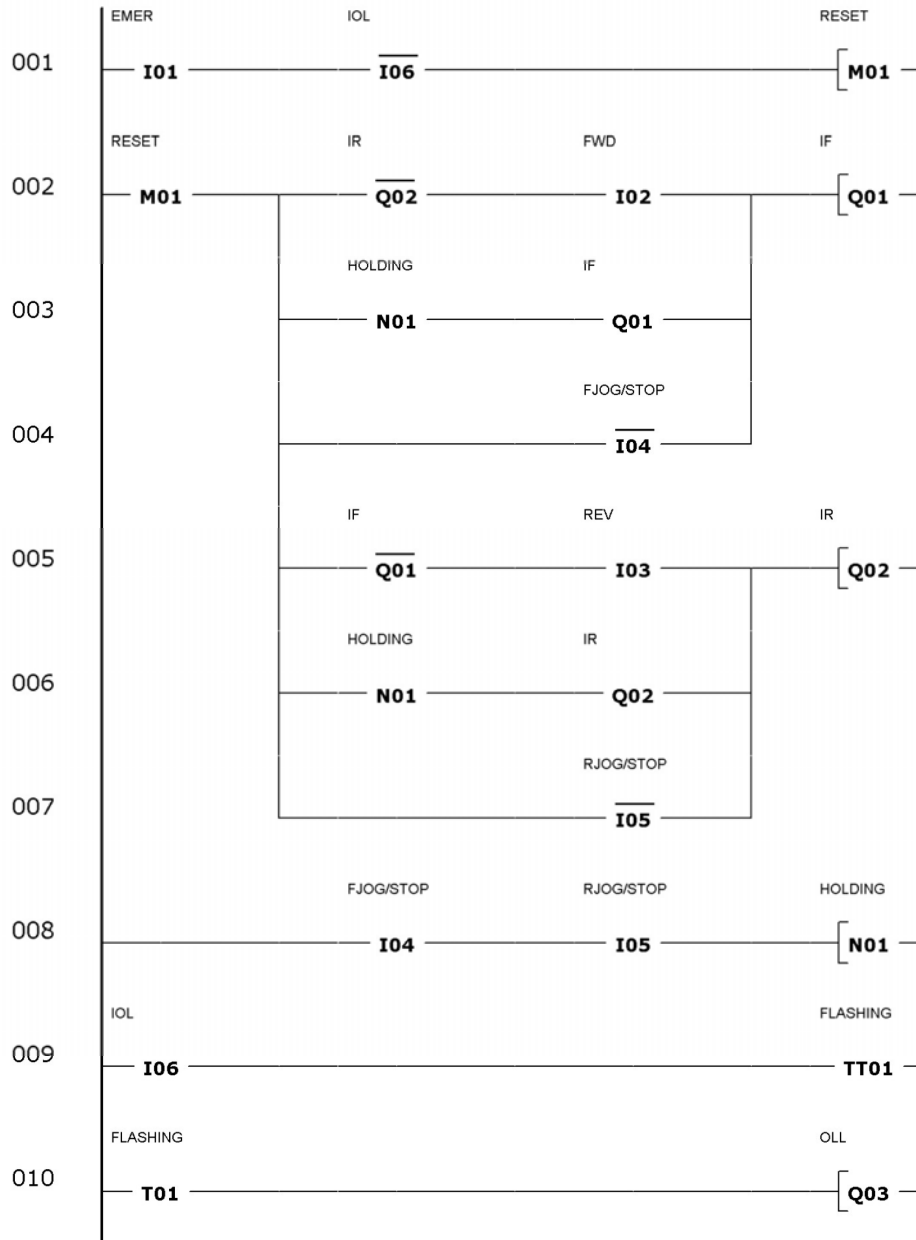

Figure 2-17. Reversing motor starter with jogging and overload indicator and reset connection diagrams.
To increase the system safety, modify the program according to Figure 2-17. This modification prevents the motor from automatically restarting.
5. In Figure 2-17, which conditions cause the program to reset?